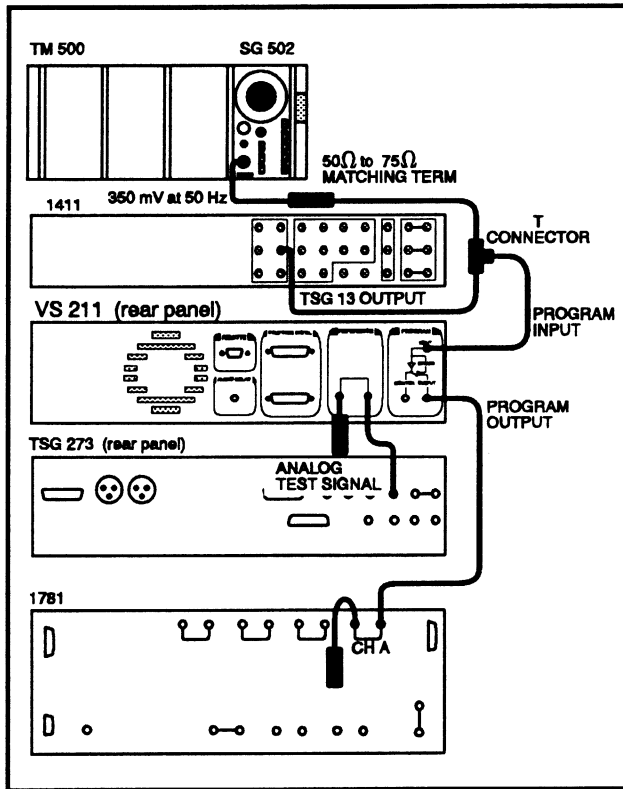

Fig. 4-11. Setup to check hum rejection.
- Connect the test equipment as shown in Fig. 4-11.